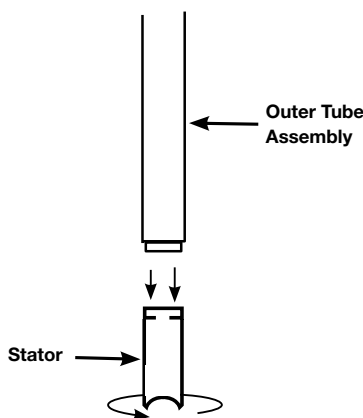

Figure 6
6. Remove the stator from the pump tube body by turning clockwise (see Figure 6).
10. Once Bearing Housing, drive shaft, and rotor are securely threaded together, insert this assembly into the pump body (see Figure 6, page 4).